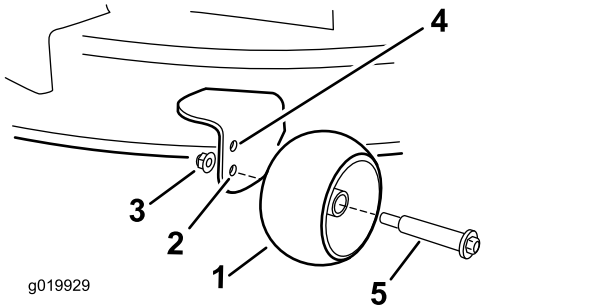

Figure 26
- Upper hole—use this position with the mower deck in the 63 mm (2-1/2 inches) and below the height-of-cut positions (Figure 26).
- Lower hole—use this position with the mower deck in the 76 mm (3 inches) and above the height-of-cut positions (Figure 26).